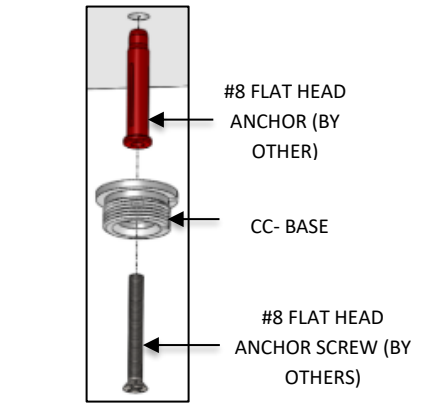

FIG. 8- HARD CEILING INSTALLATION
4. Install the CC-BASE to the #8 FLAT HEAD ANCHOR (by others) previously installed at the non-powered mounting location and secure with the #8 FLAT HEAD ANCHOR SCREW (by others) as shown in FIG. 8.